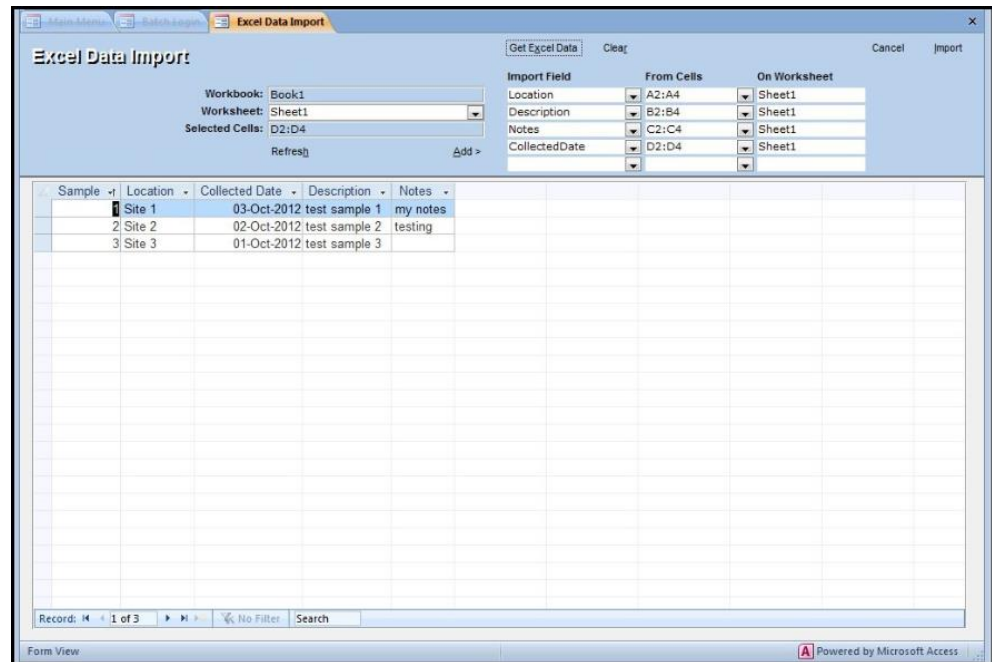

Figure 11 Excel Data Import
- Click [Get Excel Data] to retrieve the data into the Excel Data Import screen (see Figure 11). Verify the data then click [Import] to add the data to the Batch Login screen's samples.